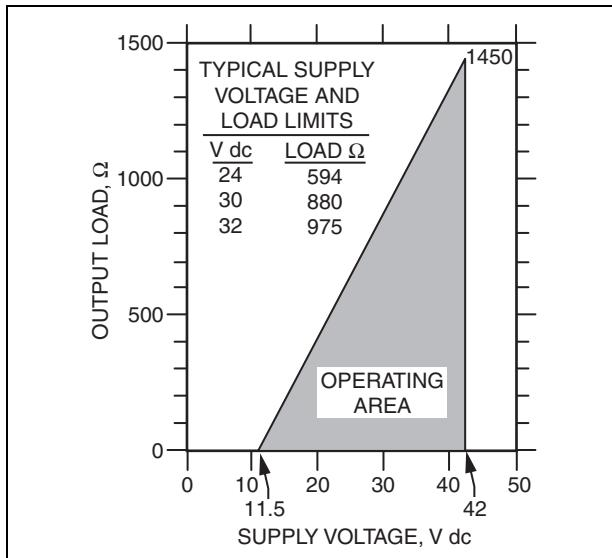

Figure 18. Supply Voltage vs. Output Load
Supply Voltage Requirements and External Loop Load Limitations (Figure 18)
Nominal minimum voltage shown in Figure 18 is 11.5 V dc. This can be reduced to 11 V dc using a plug-in jumper across the test receptacles in the field wiring compartment terminal block. An optional plug-in shorting bar (Figure 21) is offered for this purpose.
- (e) 11.5 V dc can be reduced to 11 V dc by using a plug-in shorting bar; see "Supply Voltage Requirements" section and Figure 18.